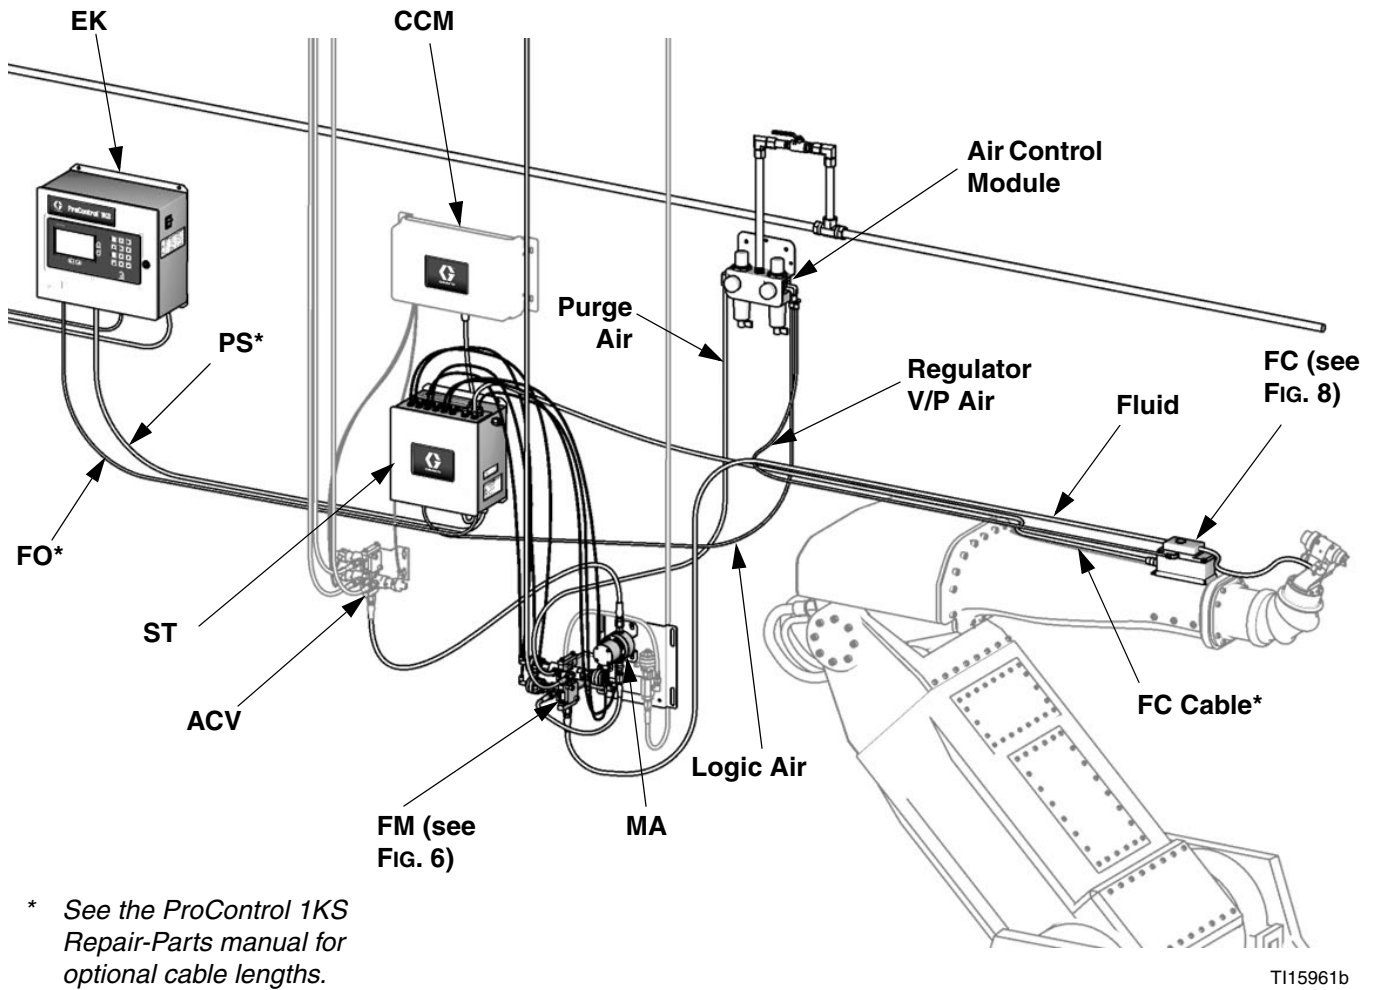

FIG. 2. ProControl 1KS System, shown with G3000 Meter, Color Change, and Flow Control
See Table 1, and FIG. 2 for the system components.
- FIG. 2 on page 10 shows the basic components of a ProControl 1KS system, and FIG. 4 on page 15 shows a basic system layout. Contact your Graco distributor for an actual system design.